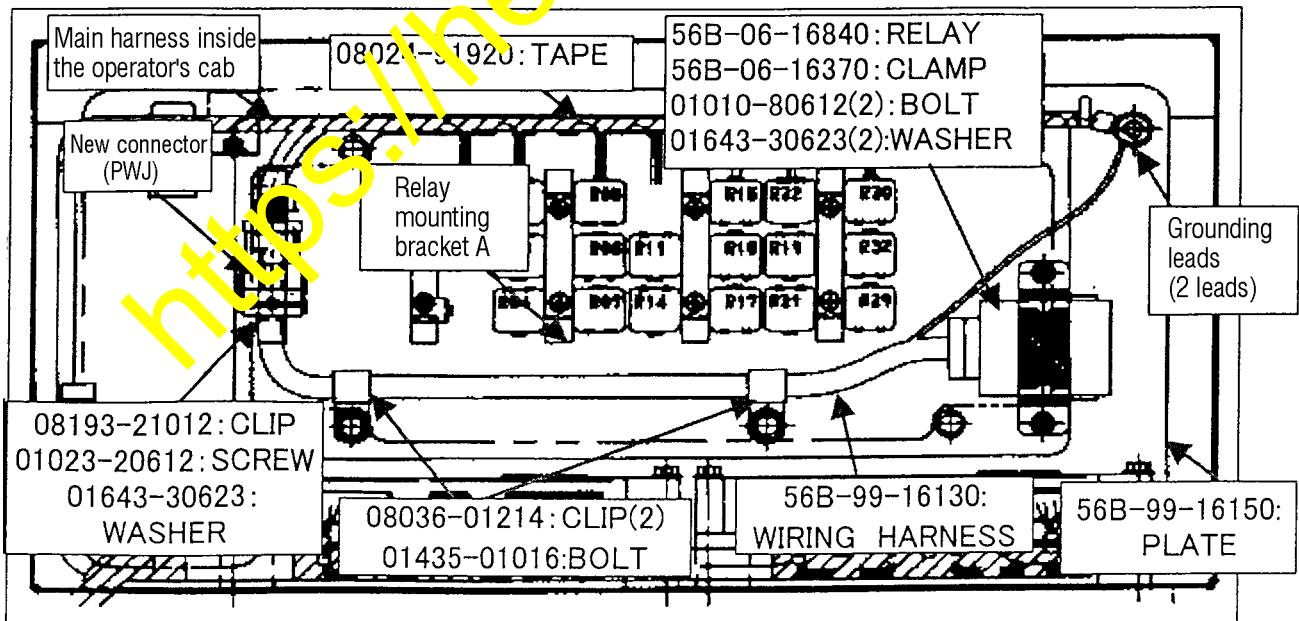
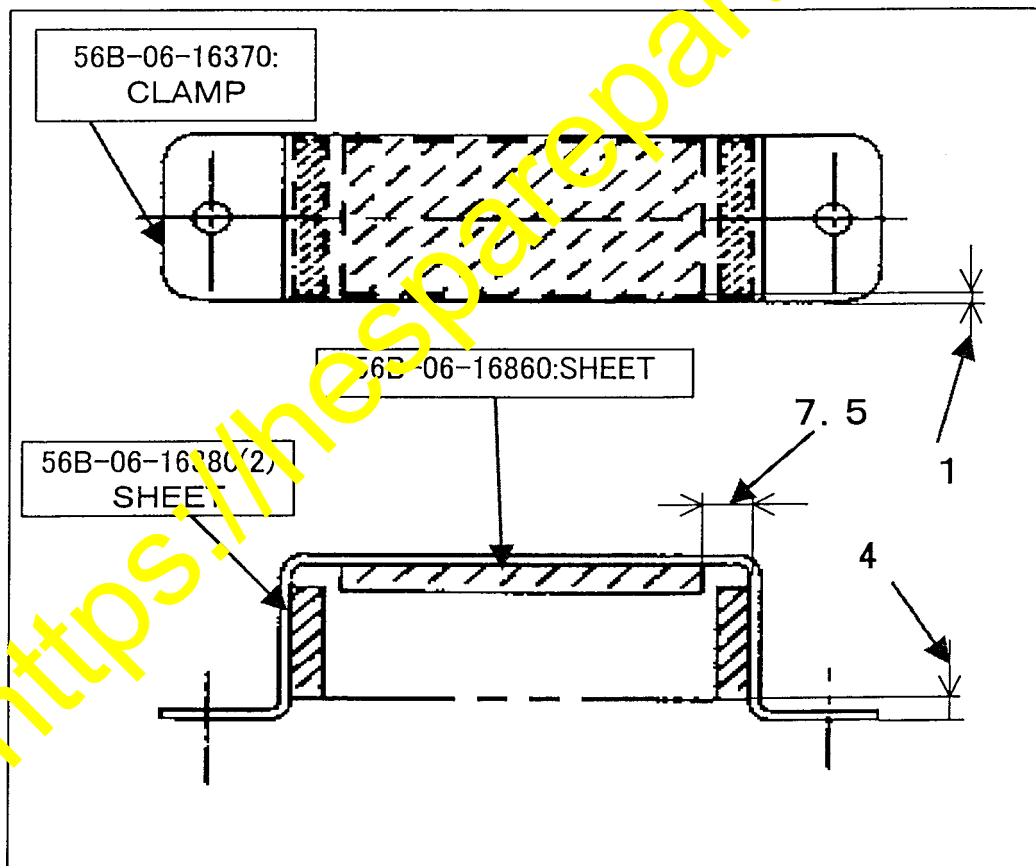

Fig. 26
Fig. 28
- (2) Install the new relay mounting plate (56B-99-16150). Hereafter, refer to Fig. 26.
- (3) Inserting the relay connectors to the relay mounting bracket A, install the relays. (As the mounting parts, reuse the current parts.) (Excluding R25, R26, R27 and R28)
- (4) Fasten the connector (PWJ) which has been added as per 4-3A, B (3) using the clips (08193-21012), screws (01023-20612) and washers (01643-30623).
- (5) Paste the cushion sheets (56B-06-16380 (2) and 56B-06-16860) to the mounting clamp (56B-06-16370) for the improved relay (56B-06-16840). (Refer to Fig. 28.)
- (6) Fasten the improved relay (56B-06-16840) using the clamp (56B-06-16370) described in the above Section (5) and using the bolts (01010-80612(2)) and washers (01643-30623(2)).
- (7) Connect the relay connector (New R25) of the adaptor harness (56B-99-16130) and the improved relay (56B-06-16840).
- (8) Connect the connector (PWJ) of the adaptor harness and the new connector (PWJ).
- (9) Clamp the adaptor harness with the clips (08036-01214 (2)) and bolt (01435-01016). (One of the clips should be fastened by common use of the fastening bolt for the new relay mounting plate (56B-99-16150).)
- (10) Install the grounding leads. (2 leads - main harness inside the operator's cab and the adaptor harness)